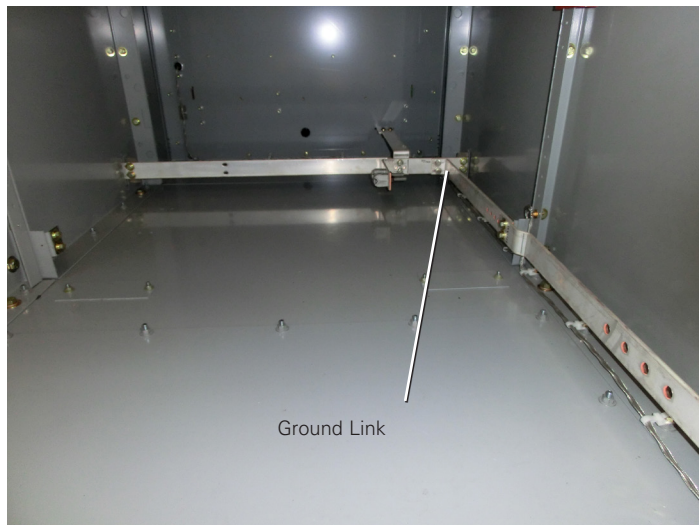

Figure 2. Ground Bus Installation.
- A. Ground bus is located in the rear of the equipment. The standard ground bus is a 0.25 × 2.00 in. (6.4 × 50.8 mm) copper busbar bolted to the cross members of the frame in the bottom of each switchgear unit. The ground bus runs through the center of each unit, through the length of the entire switchgear assembly. Install the ground links and hardware (located in detail box) to connect the ground bus at the shipping sections (see Figure 2). Torque the hardware per the specifications contained in Table 3.